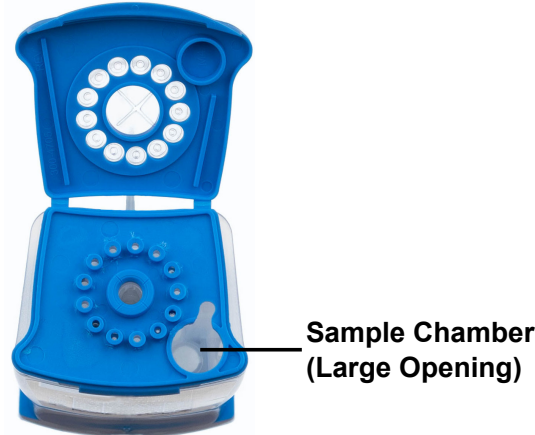

Figure 19. Cartridge (Top View)
3. To transfer the patient specimen to the cartridge, squeeze the bulb of the transfer pipette completely again to empty the contents of the pipette into the large opening (Sample Chamber) in the cartridge shown in Figure 19.